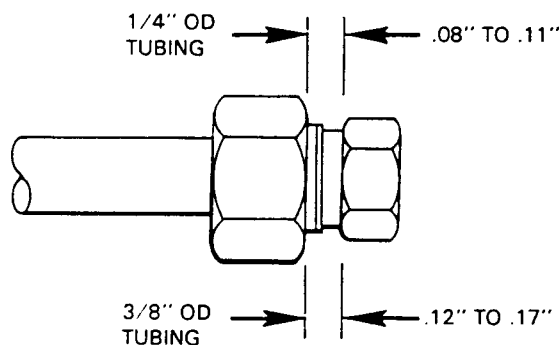

Figure 28-5. Tolerances, Union Nut and Tubing Nut
5. After tightening each fitting, measure distance between face of union nut and face of tubing nut. Refer to figure 28-5 for tolerance.
1. If fittings show evidence of galling, or do not meet dimensional requirements (refer to figure 28-5), or continue to leak after being tightened, they must be replaced.
9. With tanks full and master switch ON, needle should be centered on F radial mark within ± 2 needle widths. If not within this tolerance, adjust electrical adjustment (refer to figure 28-5) to bring it within tolerance; do not center needle.